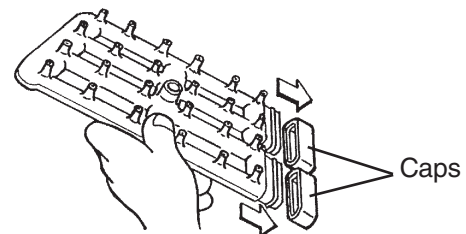

**Fig. 41**
- 6) Lift off the ice chute from the front frame pipe and then from the rear frame pipe. See Fig. 41.